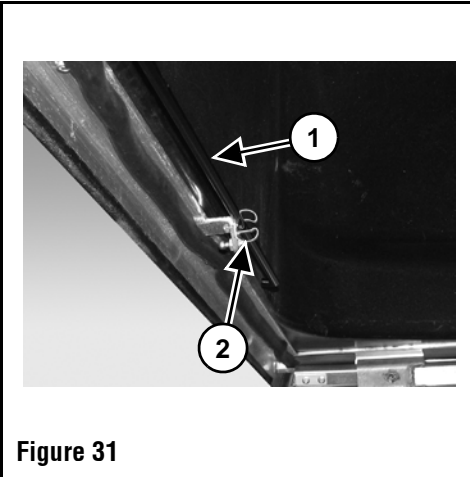

Figure 31
10. Store the support rod (Item 1) into the storage holding clamps (Item 2). (Figure 31)